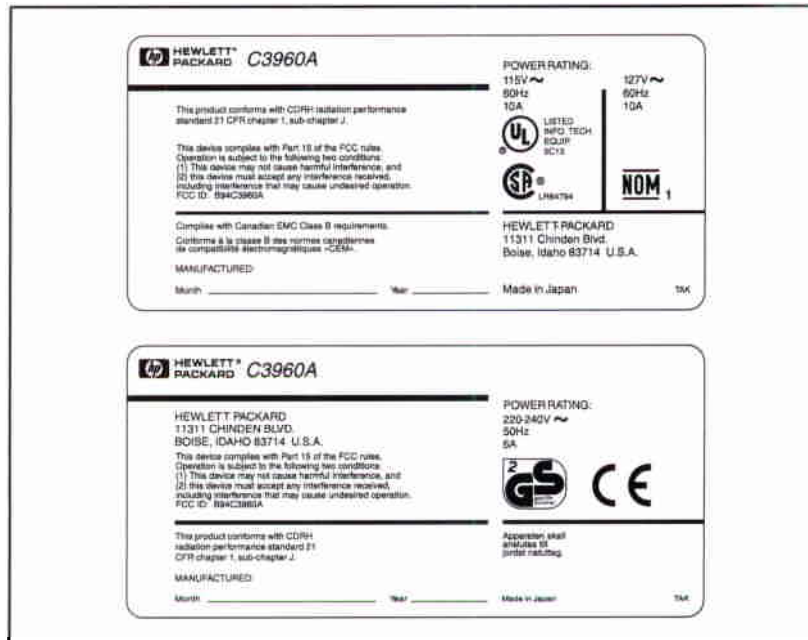

Figure 1-1 Printer Model Number Labels (115V/127V and 220V/240V)
The printer model number is in the upper left corner of the label shown in Figure 1-1. This label is located on the lower rear cover of the printer (see Figure 1-3, item 2).